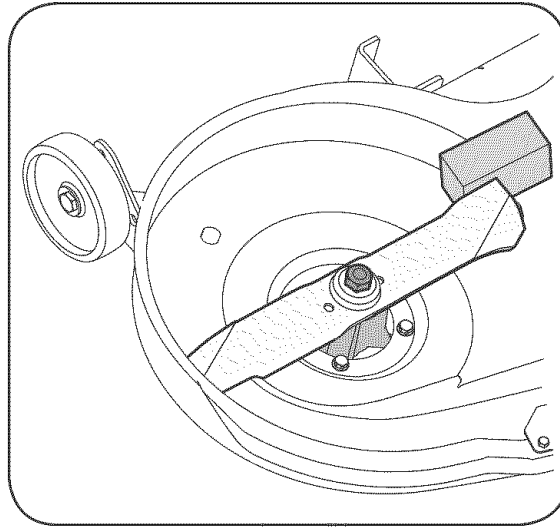

Figure 20
2. Place a block of wood between the center deck housing baffle and the cutting blade to act as a stabilizer. See Figure 20.
3. Use a 15/16" wrench to remove the hex flange nut that secures the blade to the spindle assembly. See Figure 20.